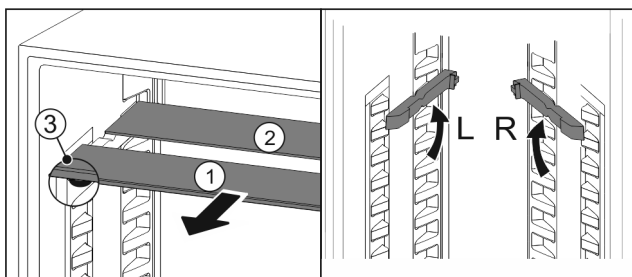

Fig. 92
- Pull the glass panels out Fig. 92 (1) from the front, one at a time.
- ▷ The glass panel Fig. 92 (1) with the trim strip is at the front.
- ▷ The stops Fig. 92 (3) point downward.